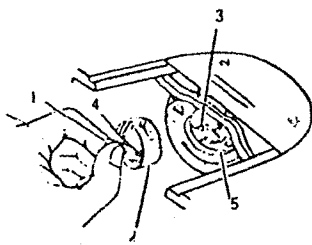
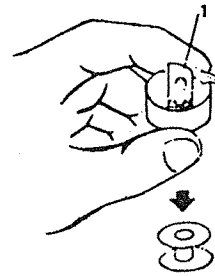

Fig. 8
Fig. 9
- 1) With left hand beneath machine bed, open bobbin case latch lever 1 by forefinger and hold it together with thumb (see Fig. 8), pull out bobbin case 2. Release the latch lever and the empty bobbin will drop out of the bobbin case (see Fig. 9). Place wound bobbin 1 into bobbin case 2 (see Fig. 10), let the thread tip be out of the case. Then, set the thread tip into the slot on bobbin case 2 and under the tension spring 3, in the center of the spring notch (see Fig. 11). Draw about 100mm of thread out of the bobbin case with which to start sewing.
2) While holding bobbin case latch lever 1 with forefinger and thumb (see Fig. 8) to make the latch catch the wound bobbin, fully press in bobbin case 2 onto center stud 3 of shuttle 5, turn the balance wheel to make sure that bobbin case latch 4 is locked on the groove of center stud 3.